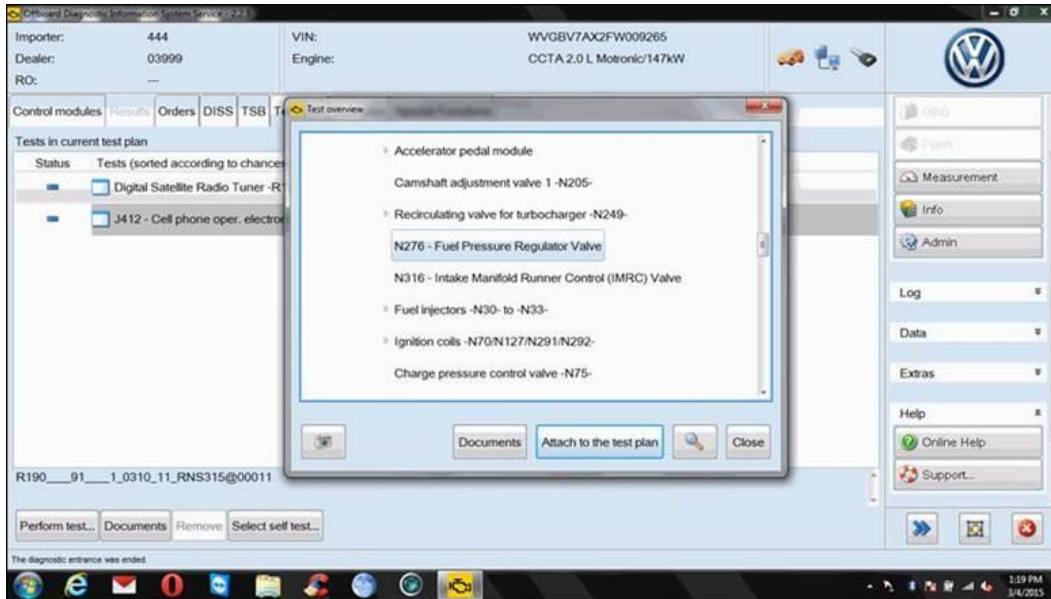
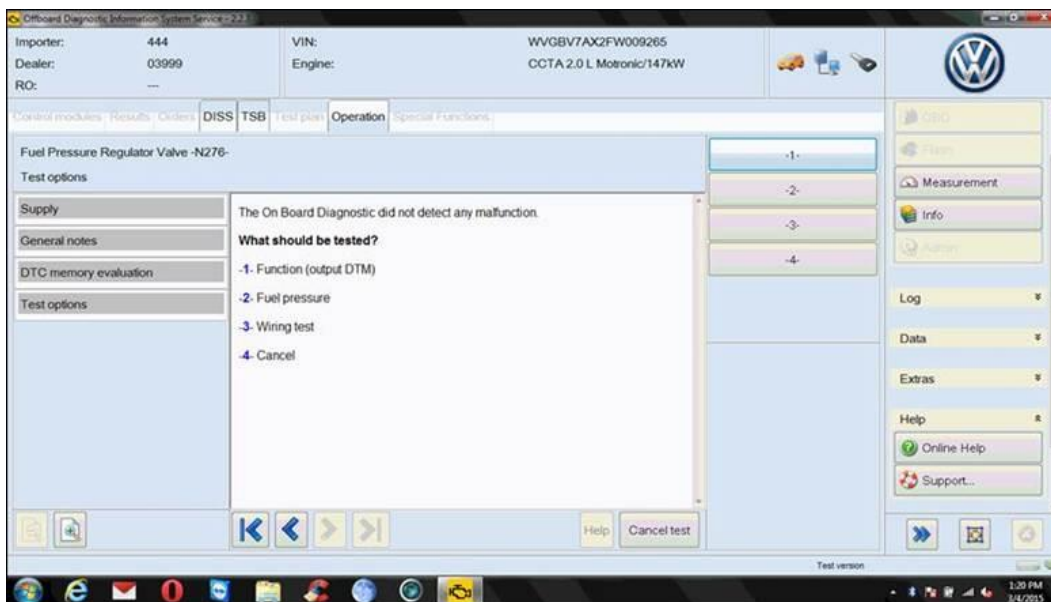

Figure 1a
Figure 1b
- Locate the test plan for the "N276 – Fuel Pressure Regulator Valve," and attach the test to the test plan list (Figure 1a and Figure 1b).